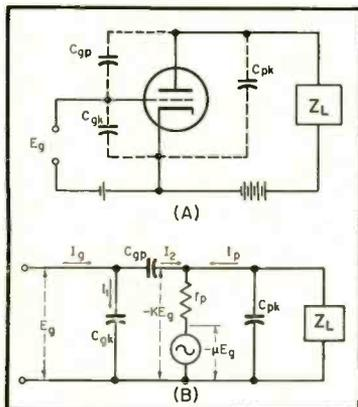

Fig. 1 (A). Typical tube circuit with inter-electrode capacitances indicated. (B). A.c. equivalent circuit at high frequencies.
Figure 1(A) shows the circuit of a triode with the interelectrode capacitances contributed by the tube geometry indicated by dotted lines. The equivalent circuit for this tube is shown in Fig. 1(B). If an alternating current signal E_g is applied at the input terminals, alternating currents will flow through the capacitors C_{gp} and C_{gk} . These currents together will be I_g . The amount of current I_g that flows through these capacitors is determined by the voltage and frequency of the alternating current input in addition to the gain and plate resistance of the tube and its load impedance. Examining the circuit, we see that the output voltage of the tube is effective-